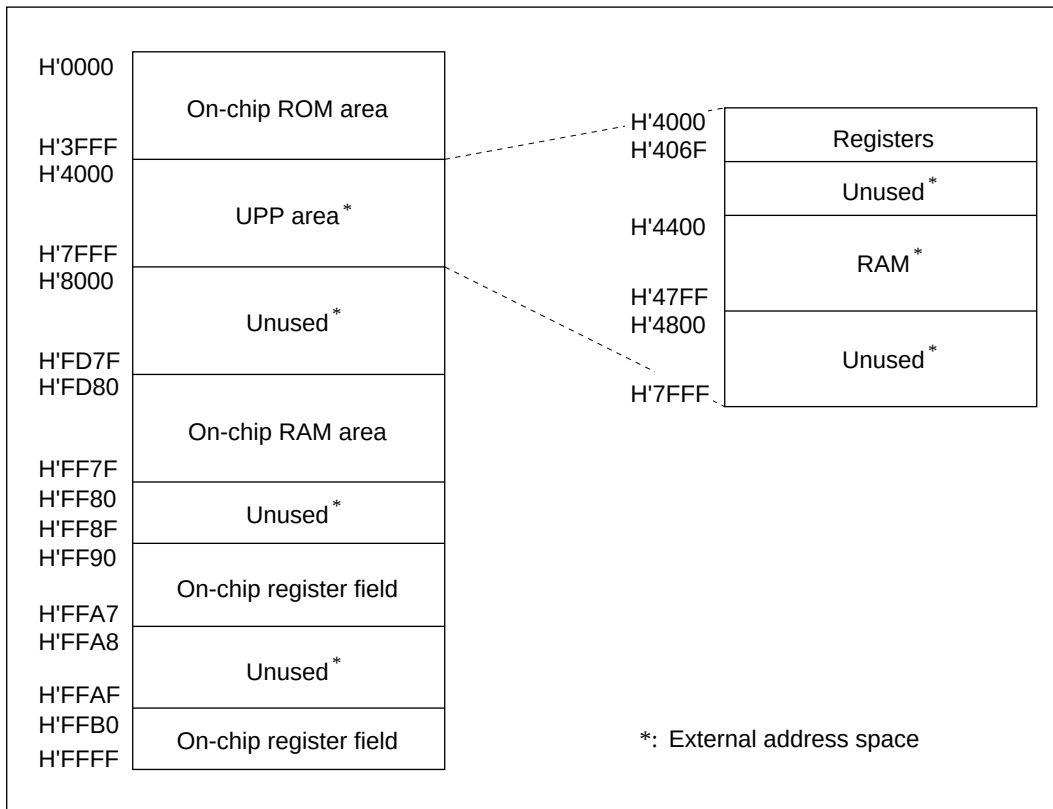

Figure 2 Memory Map
- The HD63140 is allocated as shown in figure 2.